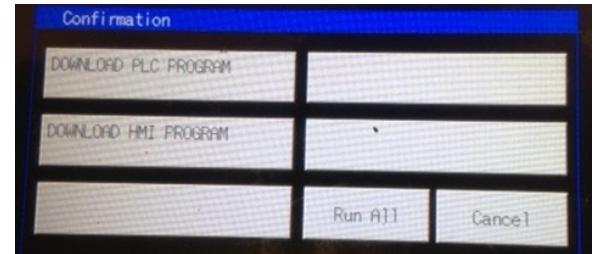

Figure 3
On first time installation when the HMI is turned on you will see the “SYSTEM MODE TOP PAGE” (Figure 2). Within 3-5 seconds of inserting the USB drive in the back of the HMI, the screen will go black for 1-2 seconds then popup the following dialog box (Figure 3).
**Step #7:** If you are reinstalling or upgrading the HMI/PLC software simply select “RUN ALL” from the confirmation window (Figure 3) that will appear after inserting the USB drive into the back of the HMI. This process will take about 90 seconds. Once complete you will get a small confirmation box simply select “ACK”.